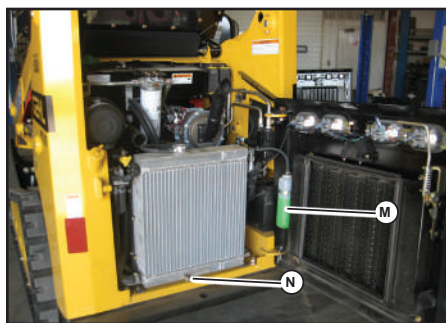

Fig. 73 - Cooling System
1. Open the rear door. Check the coolant level in the coolant recovery tank (M, Fig. 73) on the inside of the rear door. The coolant recovery tank must be 1/3 to 1/2 full with a cold engine and 2/3 to 3/4 full with a hot engine.
6. Remove the drain plug (N, Fig. 73) and drain the coolant into a suitable container with a minimum capacity of 6,62 L (7 U.S. qts.) underneath the radiator.